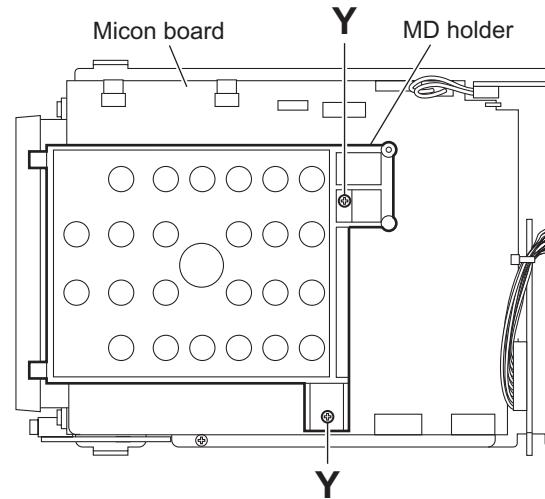

Fig.19
(See Fig.19)
- Remove the two screws **Y** attaching the MD holder to the micon board. (See Fig.19.)